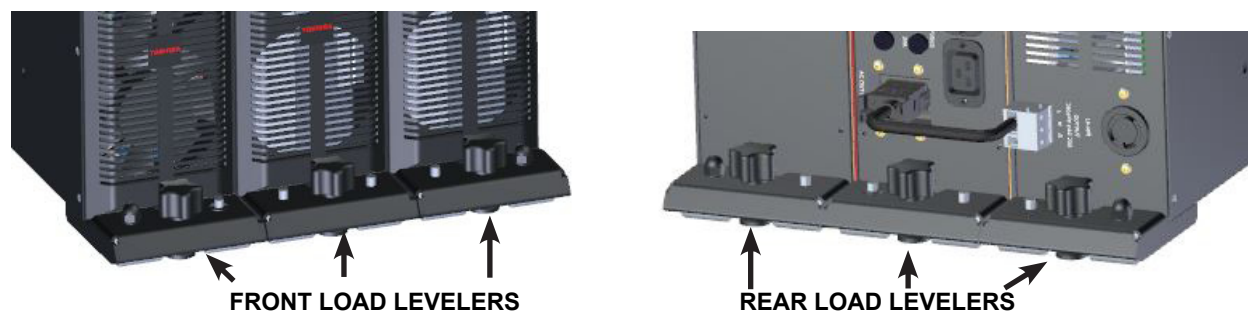

FIGURE 5: USE LOAD LEVELERS TO STABILIZE TOWER ASSEMBLY
2. Use the leveling feet to remove weight from the casters. (Figure 5)